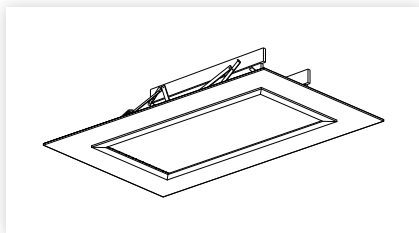

figure 12
1. Fix a suitable architrave around the lid leaving a 2-3mm gap (figure 12).